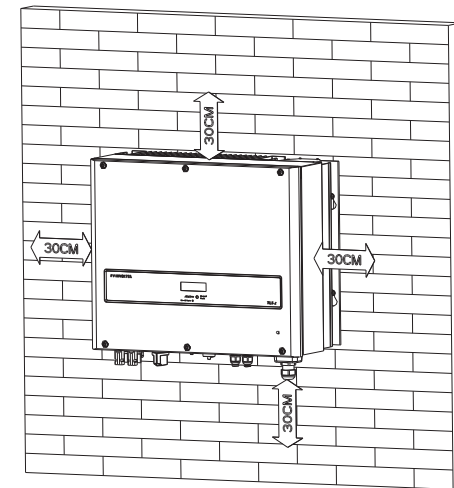

Fig5.2
- 2) The location selected must be suitable for inverters' dimension. (Refer to 3.3 Dimensions and Fig.5.2 Required Clearances)
- 10) Notice the minimum clearances of the inverter. (Refer to 3.3 Dimensions and Fig.5.2 Required Clearances).